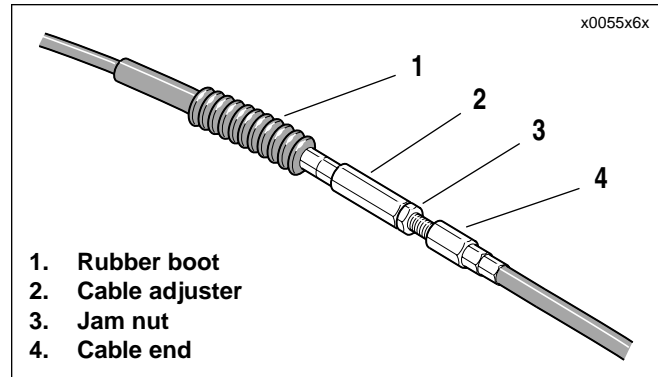
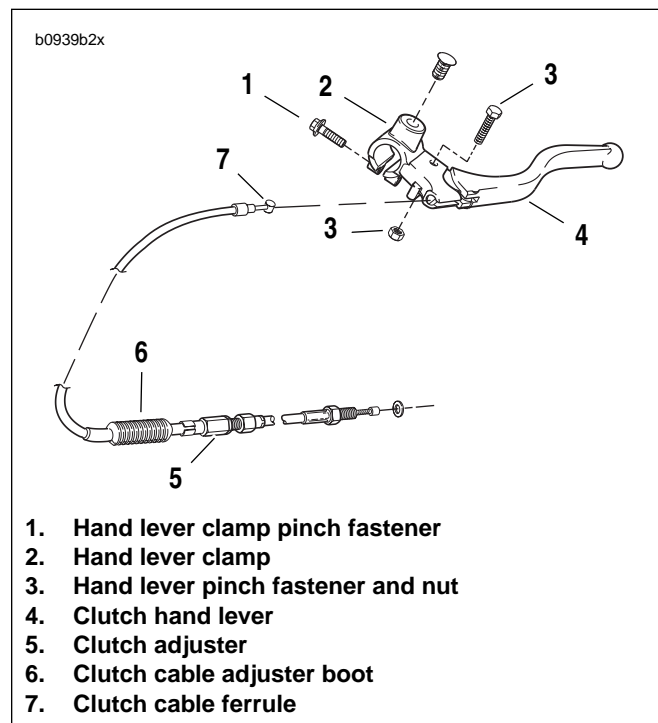

Figure 2-97. Clutch Cable Adjuster Mechanism
Figure 2-98. Clutch Hand Control Assembly
9. See Figure 2-97. Slide clutch cable adjuster boot (1) up to access clutch adjuster (2).
10. Loosen clutch adjuster (2) to release tension from hand lever and clutch release mechanism.
11. See Figure 2-98. Remove clutch cable ferrule (7) from hand lever (4).